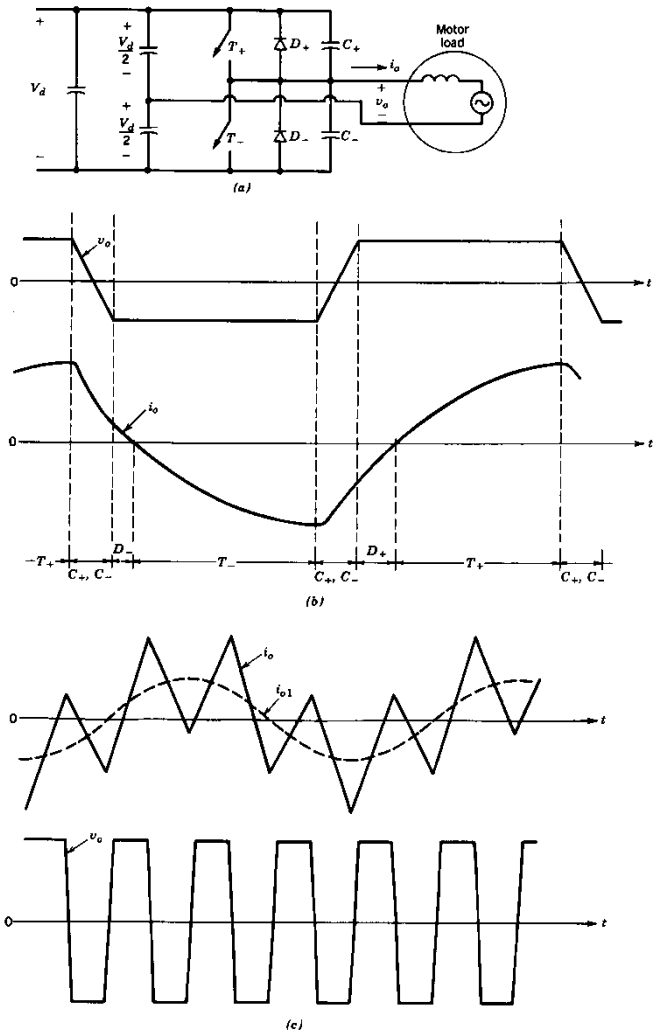

Figure 9-36 ZVS-CV dc-to-ac inverter: (a) half-bridge; (b) square-wave mode; (c) current-regulated mode.
- concept from figure 9-36(a) extended to three-phase configuration
- Figure 9-36(a) can be modified by adding an inductance L_A , C_{A+} and C_{A-} to leg-A, same for leg-B